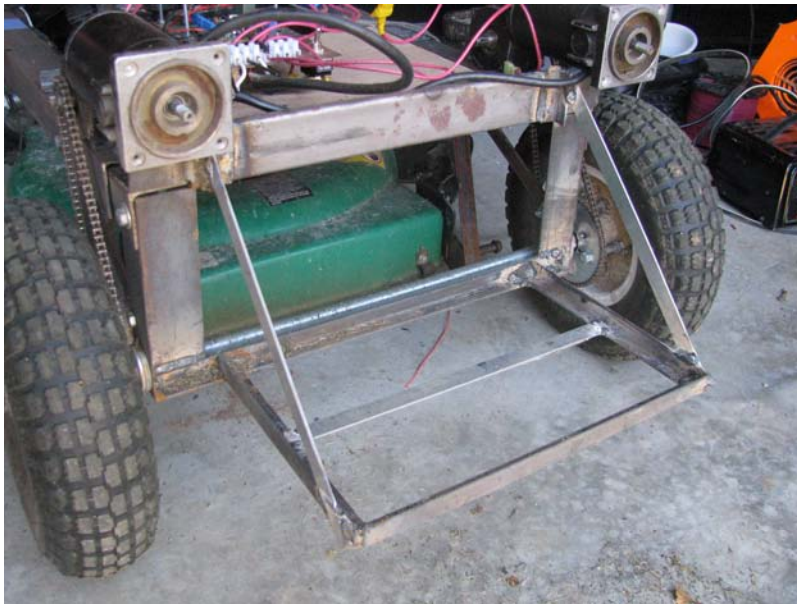

Figure 10-12. The battery rack on the rear of the Lawn-bot frame
11. Lastly, add a small rack to the rear of the frame to hold the large deep-cycle batteries. This cage can be made from scrap metal or what you have left over from the frame. Just measure the batteries to make sure the rack is large enough to hold them at the base, and use two hangers to tie the rack to the top of the frame. I used a welder to secure these joints (see Figure 10-12).